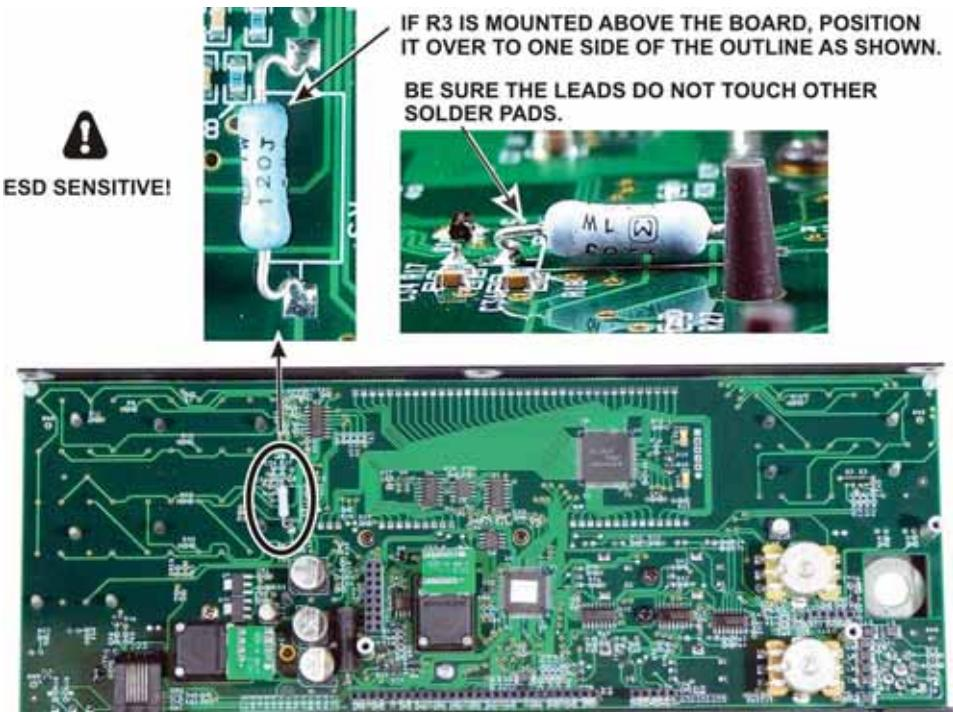
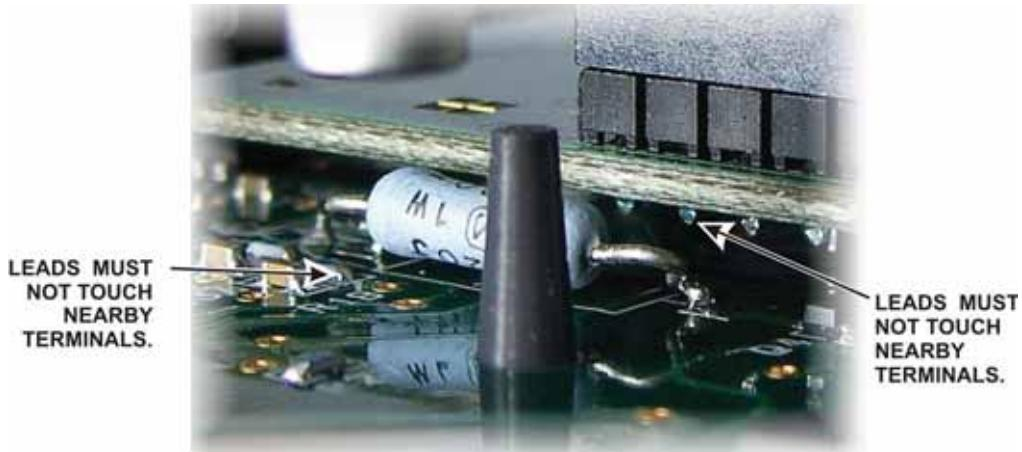

Figure 54. Positioning R3 on the Front Panel Board.
Figure 57. Checking the Position of R3.
- Locate resistor R3 on the front panel board (mounted on the front panel). If R3 is positioned above the board on its leads as shown in Figure 54, push it over to one side of the outline as shown. Be sure you don't push it so far its leads might touch the solder pads for other components on the board.
- If you installed the Auxiliary DSP board for the KRX3 and adjusted the position of resistor R3 as shown in Figure 54, look between the DSP boards and the front panel board to verify that the leads are not touching any terminals on either the aux DSP or front panel boards (see Figure 57). If necessary, unplug the DSP board assembly and adjust the position of R3 to ensure the leads are clear of other solder pads before proceeding.